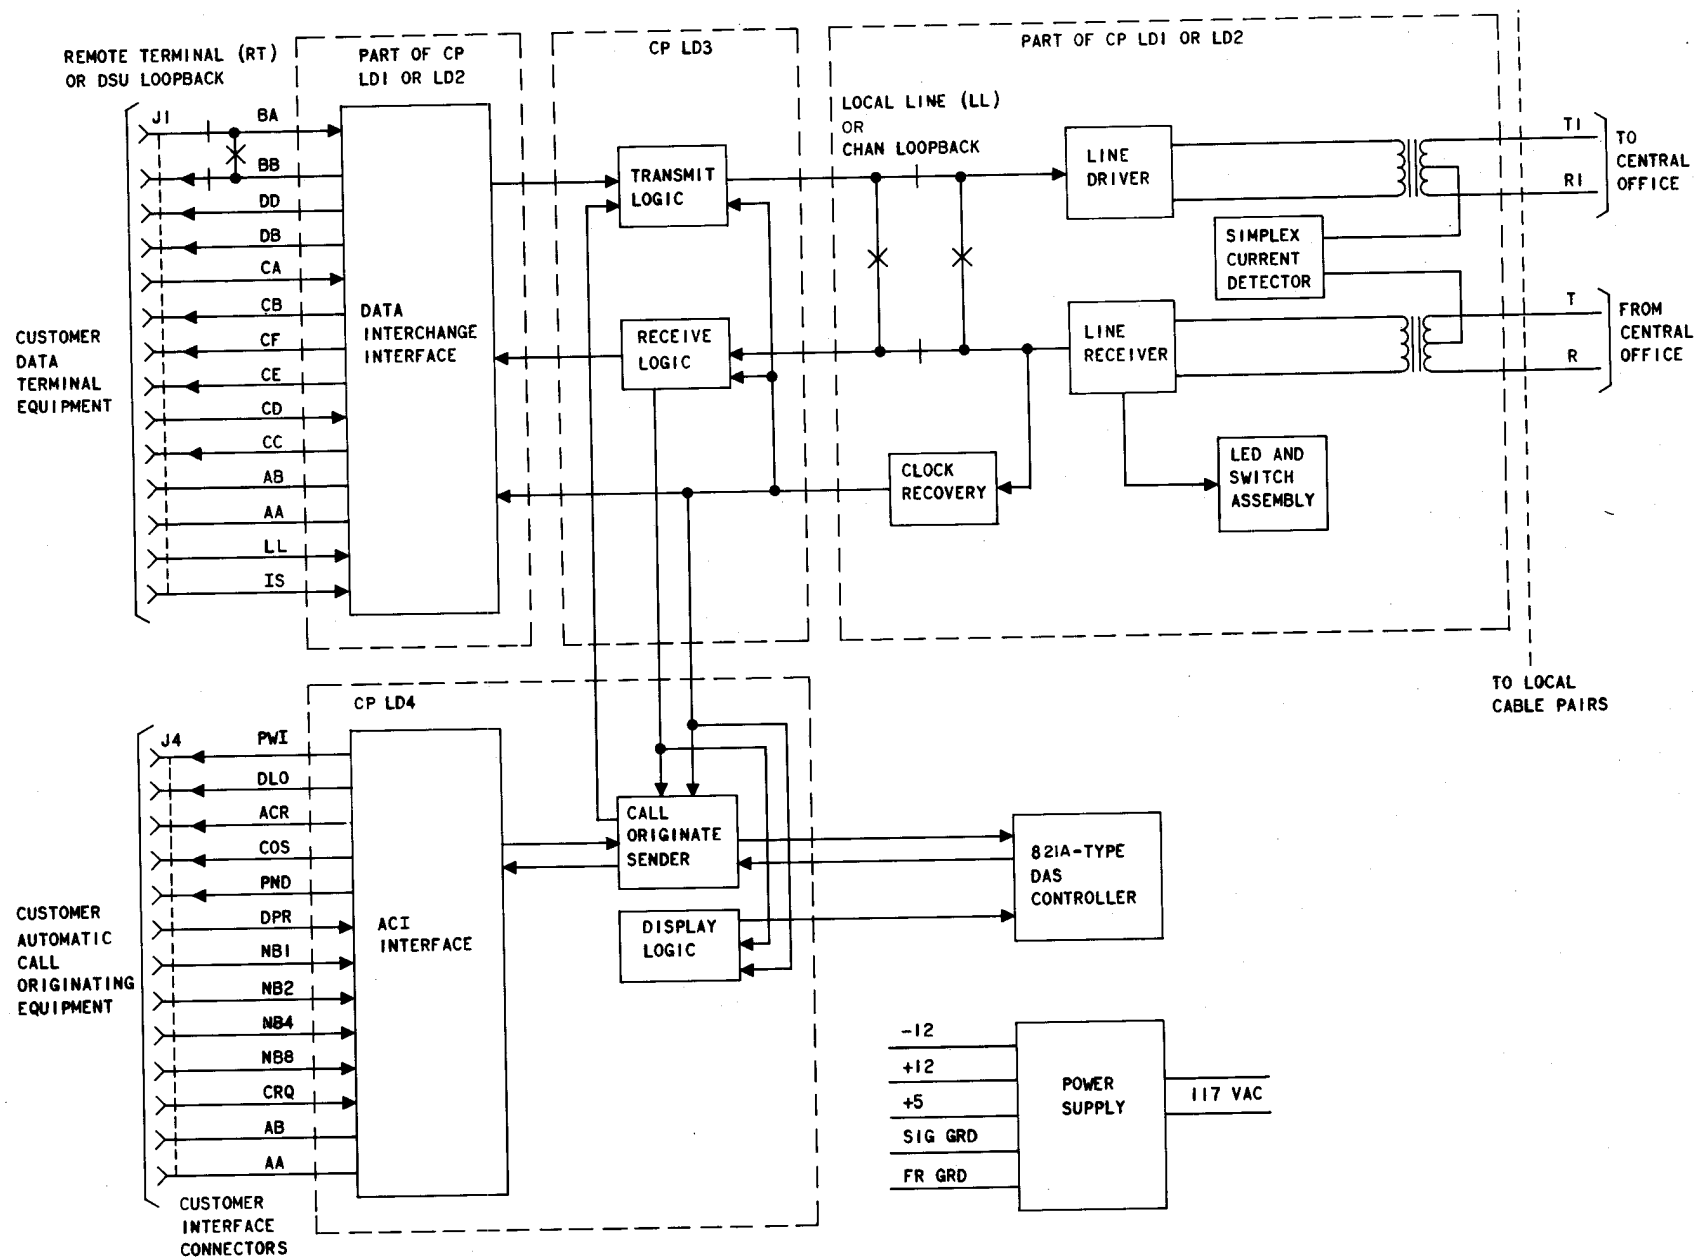

Fig. 4—Functional Block Diagram of a 501A-Type DSU and a DAS 821A-L1 Type
**3.03** Refer to Fig. 4 for a functional block diagram of the 501A-type DSU. The transmitter
separately looped toward both the SCO and the customer interface (see Fig. 4). Loopback tests may be performed by the STC or from the CPE location when the CHAN loopback function is performed as described in 3.41. When the switch is positioned to RT (remote terminal loopback), interface leads BA and BB are connected together and disconnected from the CPE. Remote terminal loopback may also be activated remotely from the STC by transmitting a control code sequence containing bipolar violations. Remote terminal loopback is called DSU loopback when originated by the STC. The switch is placed in the center position for normal operation (data mode).